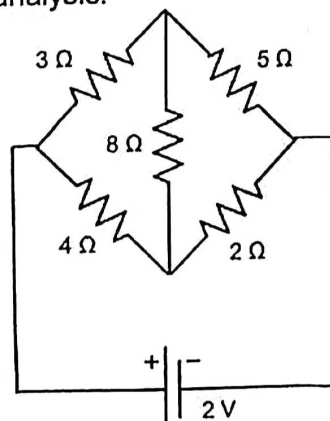

Fig 3a
- a) Find the current through various resistors of the network shown in fig 3a using mesh analysis.